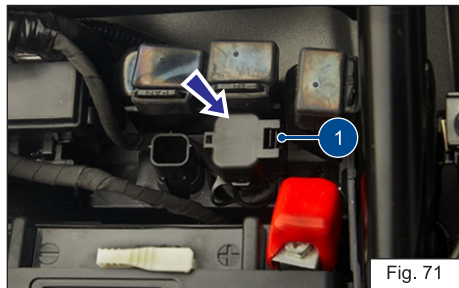

Fig. 71
- ◆ Gently pull out connector along with its cap from its location by releasing the lock (1) (ref. Fig. 71).